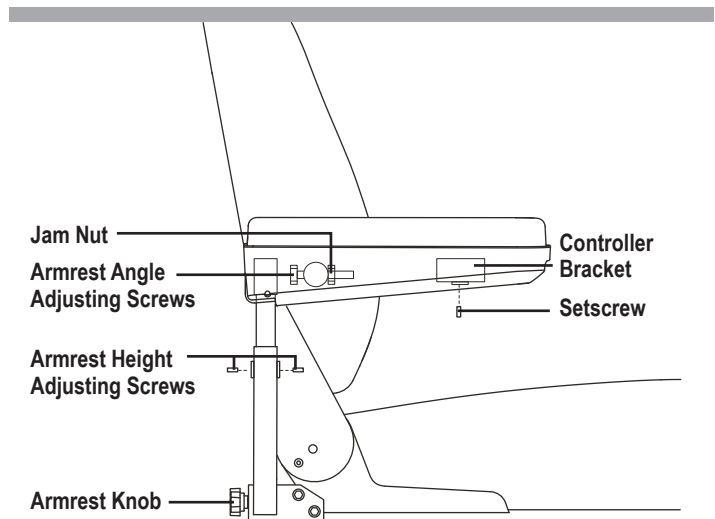

Figure 11. Seatback/Armrest Adjustment
1. Locate the two armrest knobs on each side of the armrest receiver bracket. **See figure 11.**
1. Lift the armrest straight up so that it is perpendicular to the floor. **See figure 11.**
1. Loosen the two setscrews located on the armrest receiver. **See figure 11.**
2. Loosen the setscrew on the controller bracket. **See figure 11.**
11. Secure the controller harness to the armrest with wire ties. **See figure 11.**